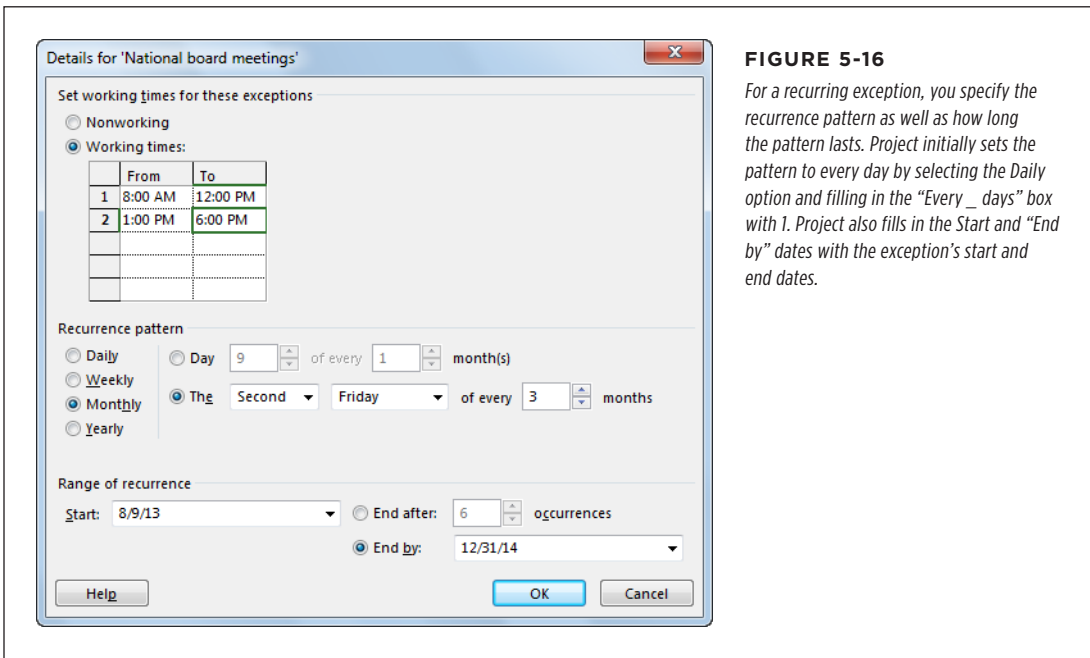

FIGURE 5-16
4. In the “Recurrence pattern” section, select the correct frequency option, as demonstrated in Figure 5-16.